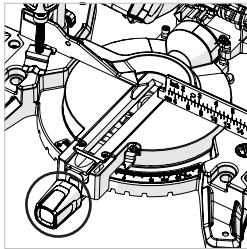

Fig. 15
- Loosen the mitre angle locking handle. (Fig.15)